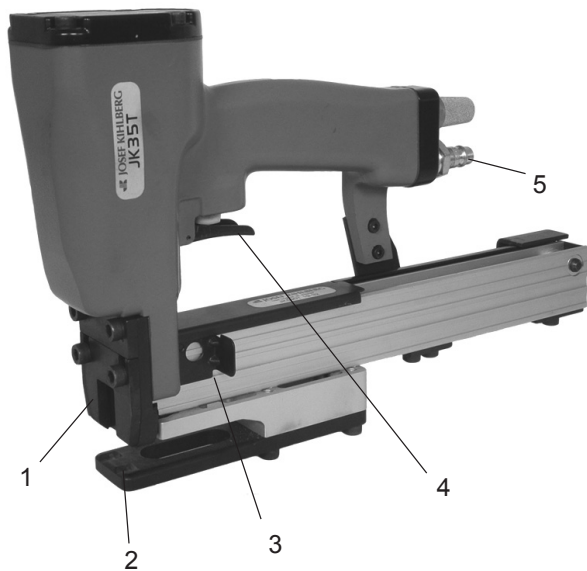

Fig. 1
2. then pull the trigger (Fig.1/4).